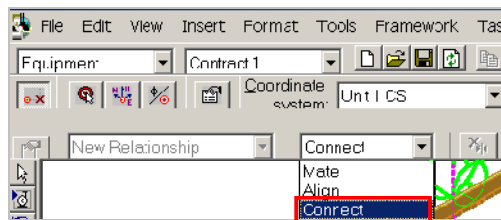

Figure 18: The Connect Option Selected for Positioning Relationship
16. On the **Place Shape** ribbon, set the relationship to **Connect** in the **Positioning Relationship** drop-down list, as shown in Figure 18.